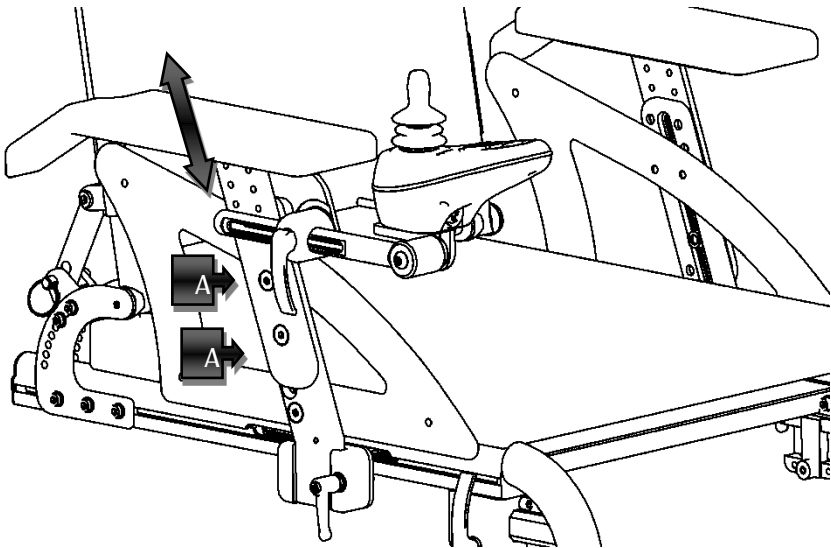

Figure 21
Seeing Figure 21, loosen the screws (A), and set armrests height to desired value and retighten the screws (A).